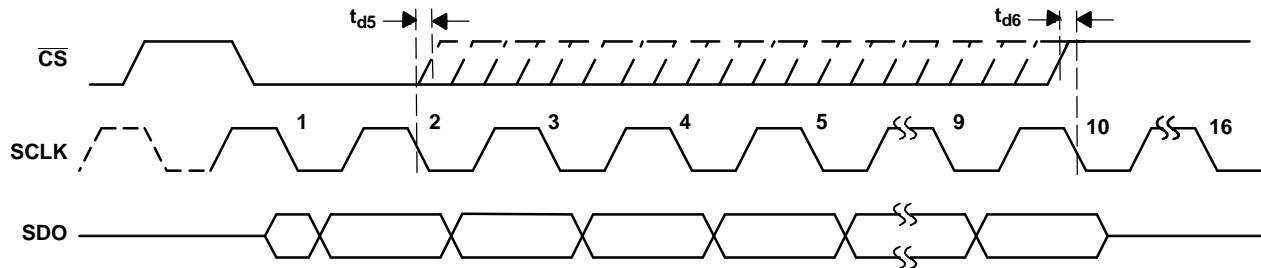

Figure 2. Entering Power Down Mode
(5) Calculated on the first nine harmonics of the input frequency.
**TIMING REQUIREMENTS (see Figure 1 and Figure 2)**
The device enters power down mode if  $\overline{CS}$  goes high anytime after the 2nd SCLK falling edge to before the 10th SCLK falling edge. Ongoing conversion stops and SDO goes to 3-state under this power down condition as shown in Figure 2.